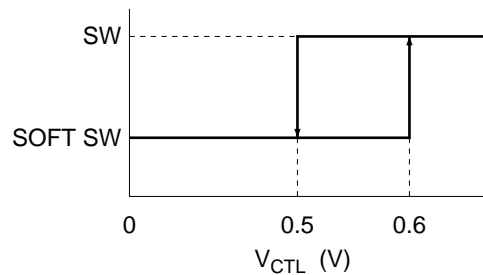

Figure 2
3. Figure 2 show how switching occurs in SW mode and in SOFT SW mode.